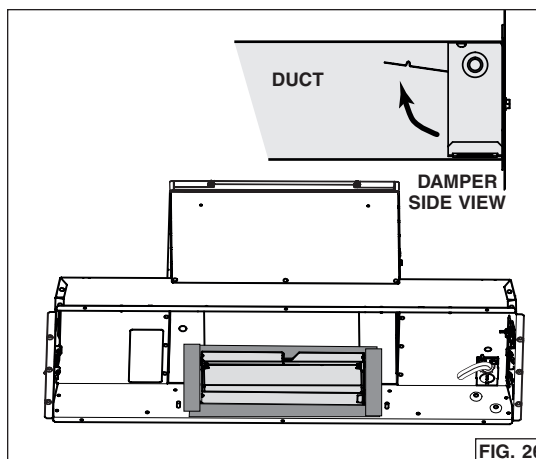

FIG. 26
- From inside the unit, slide the 3 1/4" x 10" adapter/damper in the horizontal duct, then attach it to the unit using aluminum duct tape all around the joint (FIG. 26). Ensure the damper opens as shown in damper side view.